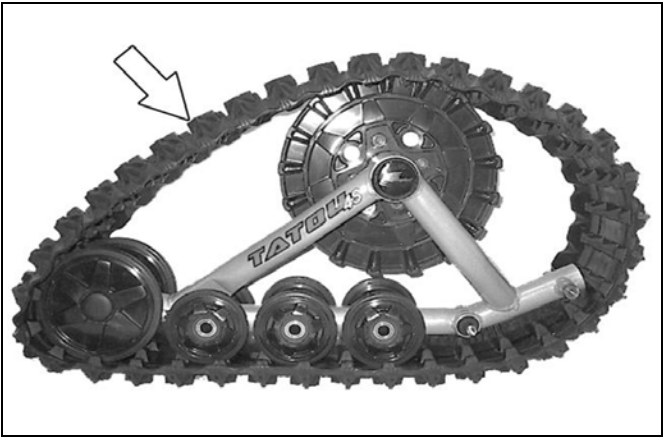

Figure 22
- Install the rubber track (refer to Figure 22).